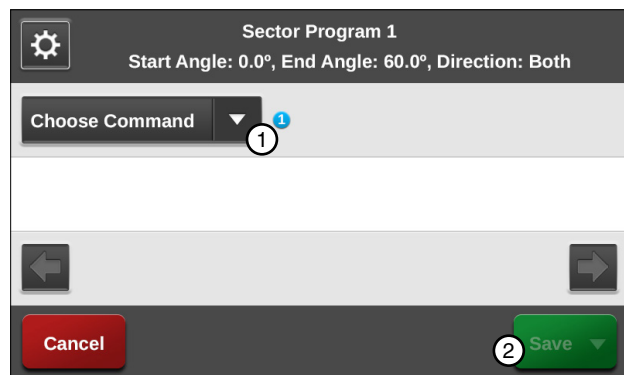

Figure 144-3 1. Choose Program Drop-Down
12. To choose the commands for this sector follow these steps: Refer to Figure 144-3.